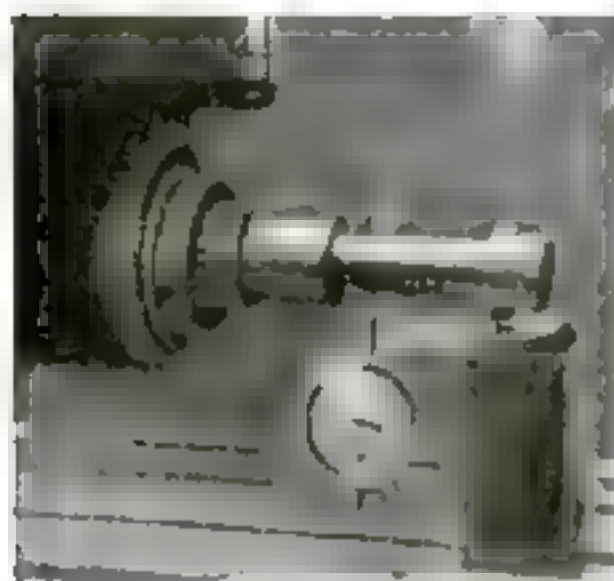

Fig. 1. Correcting a milling machine cutting arbor which is unsupported at the end.
**M**ILLING arbors which are unsupported at their outer ends are subjected to severe strains, which sometimes bend them and cause the cutter to run out. It is a simple matter to correct the cutter arbor, provided it is not excessively damaged. With the arbor firmly seated in the machine spindle, as shown in Fig. 1, turn the spindle by hand and watch the indicator reading to discover the high side. Place a hardwood block vertically between the platen and the end of the arbor; then, with the high side down, raise the platen by means of the hand crank. At the same time note the amount of rise as shown on the graduated dial of the vertical feed, for this will indicate the amount of pressure exerted against the arbor and will be of use in the successive steps required to correct the arbor.